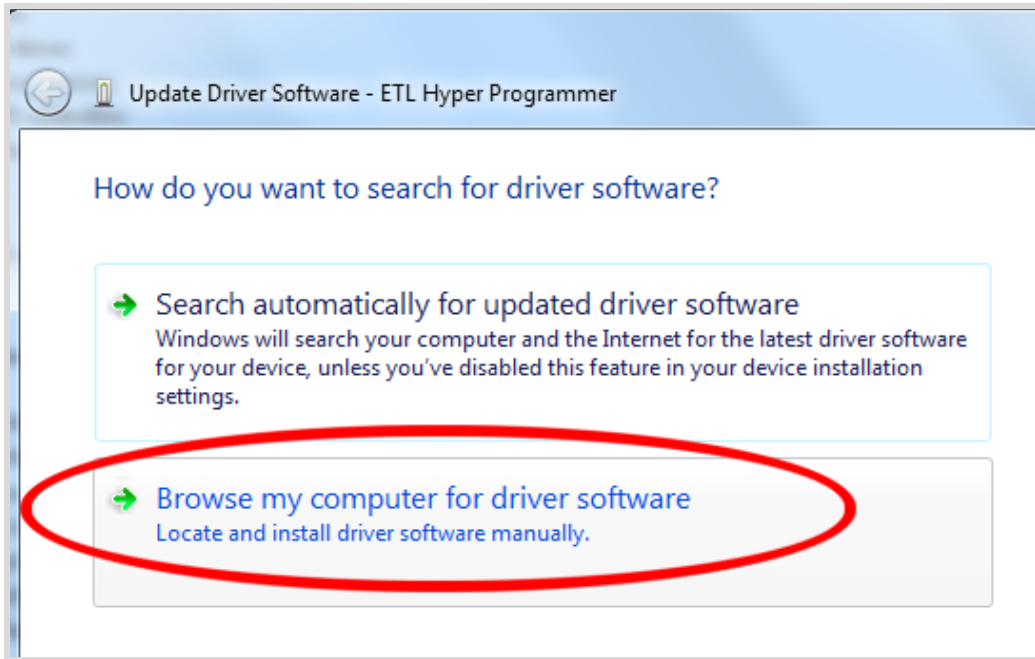

Figure 6. Update Driver Software - "ETL HyperF Programmer"
- Select the "Browse my computer for driver software" (Figure 6).